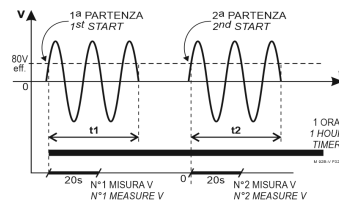

FIG. 2
**PROG. 10:** COUNTING of the STARTS that occur in one HOUR  $\pm 10\%$  starting from the first START. The STARTS correspond to "rising edges" of the voltage V (see Fig. 2). **The presence of the voltage is detected when  $V > 80V_{eff}$ .** The device has 14 memory cells P1+P14 to count the number of STARTS occurred in the interval of 1 HOUR from the first start.